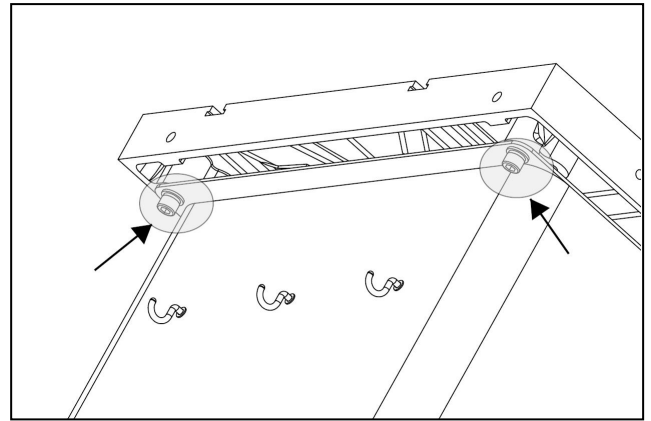

Fig.17
2. If an adjustment is necessary, loosen the screws identified in **Fig.17** which mount the table to the cabinet. Make the needed adjustment until both measurements are equal or less than 0.2 mm. and re-tighten the screws.